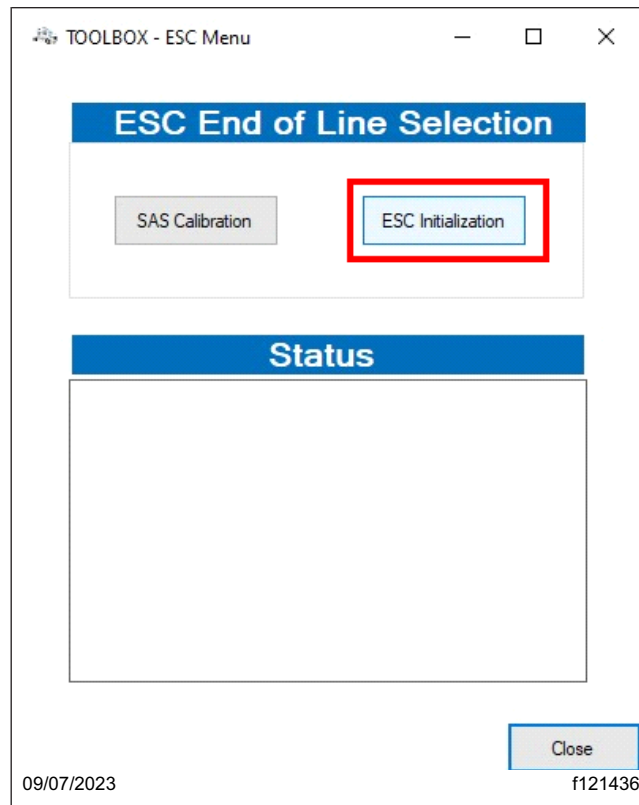

Fig. 24, Selecting the ESC Initialization Procedure in Toolbox
28.3 In the 'ESC End of Line Selection' panel, select the 'ESC Initialization.' See Fig. 24